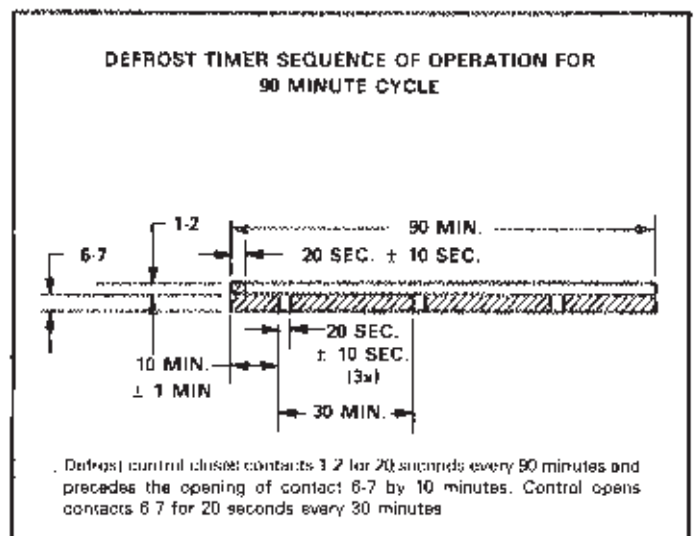

FIGURE 5
This control asks for a defrost every 90 minutes. If the temperature is below 35° F (2° C) and the defrost pressure switch senses a particular pressure differential, the unit will defrost. The defrost timer will not allow a defrost to last more than 10 minutes. The defrost timer can be field adjusted from a 90 minute to a 30 minute defrost interval if warranted by climatic conditions. See figure 5 for sequence of operations and section IX for timer conversion.
A pressure sensor mounted on the division panel between the outdoor coil and the orifice panel senses the build-up of static pressure caused by coil icing across the outdoor coil. Every 90 minutes, if the control diaphragm senses a particular pressure differential, and the defrost thermostat is closed, a defrost cycle is initiated. Defrost cycle is terminated by the defrost thermostat or the defrost timer. If the coil does not rise to termination temperature within the time override period (approximately 10 minutes), the defrost cycle is terminated by the defrost timer. See figure 5 for normal and override operation sequences of the defrost timer.
- 10 - Unit will follow the same sequence of operation shown in figure 5 except defrost interval will be every 30 minutes.